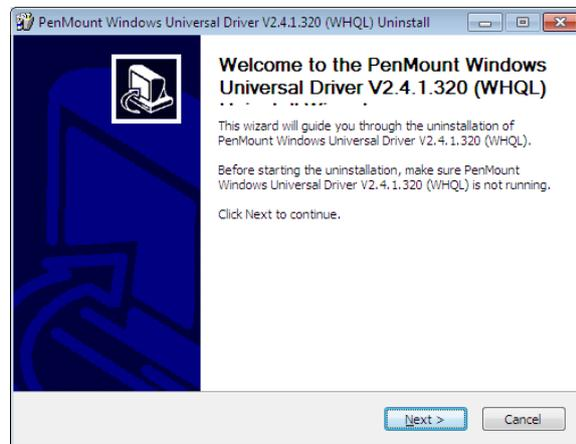

Figure. 107
Step 8: When the following dialog appears, click “Next” to remove the driver (Figure. 107).